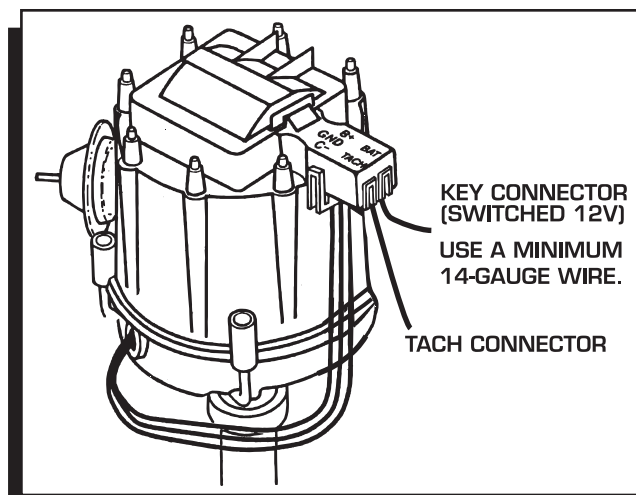

Figure 2 General Wire Installation.
11. Connect a switched 14-gauge wire from a 12 volt source to the B+ terminal of the Distributor Cap (Figure 2). (Be sure the 3-pin connector from the module is connected to the cap).